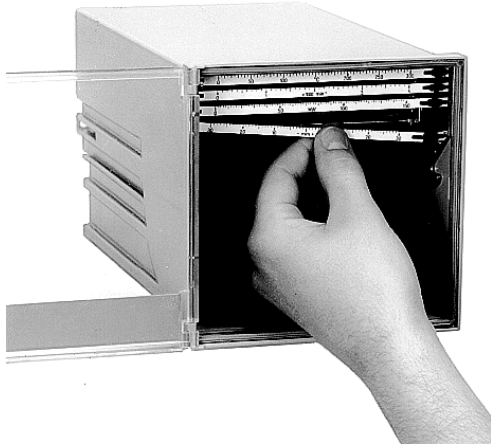

Figure 17 Replacing scales
3.3 Replacing scales (see figure 17)